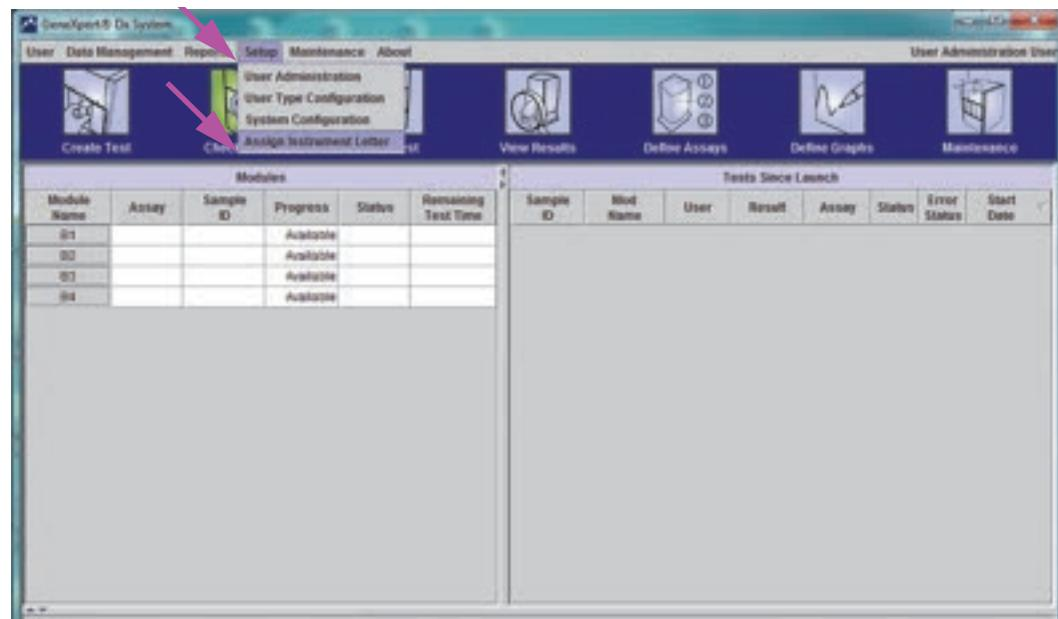

Figure 2-56. GeneXpert Dx System Window, showing the Setup Drop-Down Menu
4. In the GeneXpert Dx System window, click **Setup** in the menu bar, and then select **Assign Instrument Letter**. The Assign Instrument Letter dialog box appears. See Figure 2-56. At the same time, the green LED indicators of four modules that comprise the selected quadrant will flash.